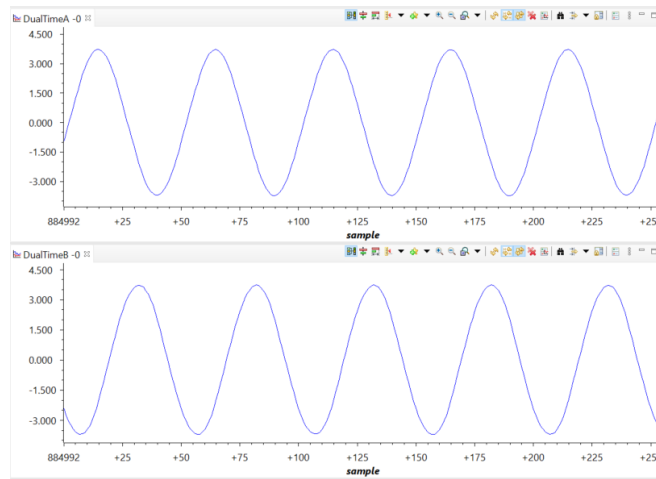

Figure 9: Phase B and C Current
- d. Change `bufferMode` to `Graph_PH_C_VIEW` by setting `gGraphVars.bufferMode`, and set `gStepVars.stepResponse` to “1” in Expression Window, this will graph phase B and C sampling current as shown in Figure 9.